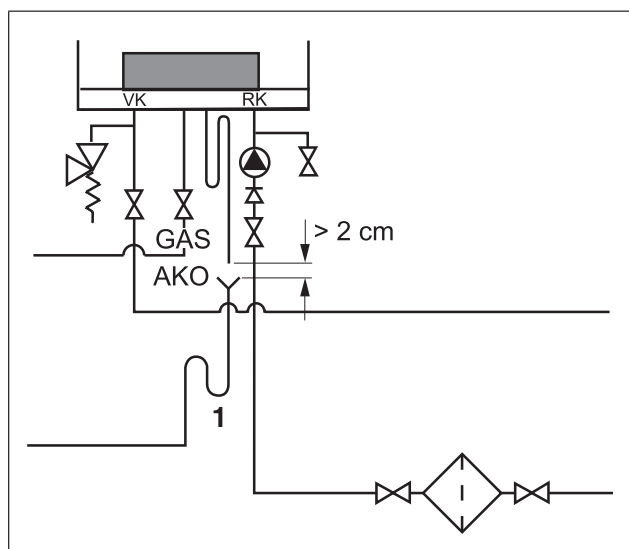
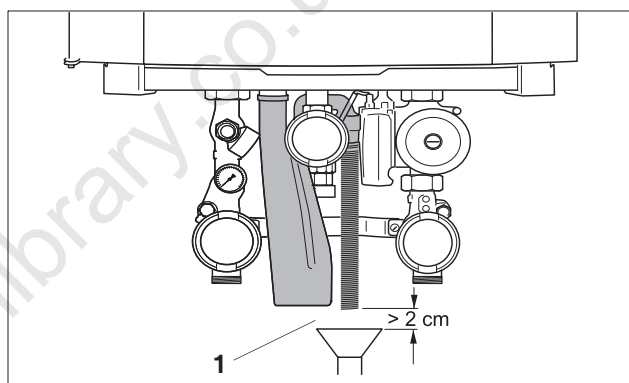

fig. 23 Connecting the condensate trap
fig. 24 Condensate drainage pipe
- Connect the condensate drain pipe to the condensate trap (fig. 23, **item 1** and fig. 24, **item 1**).